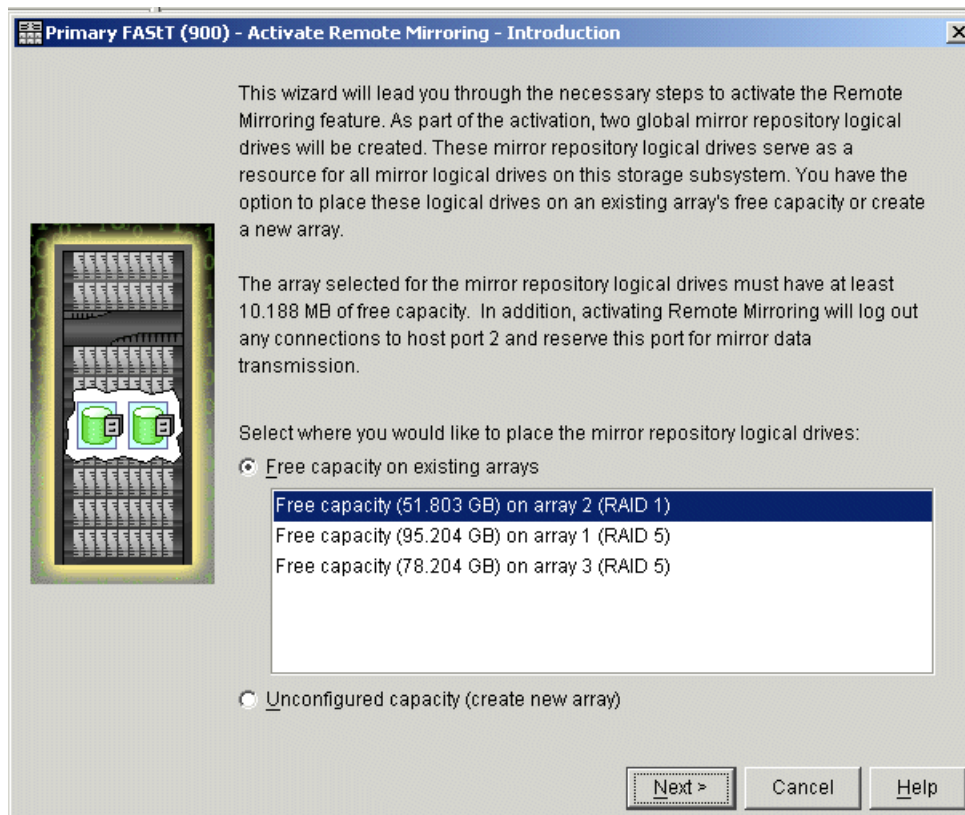

Figure 8-13 Activate Remote Mirroring Wizard - Introduction
2. The Activate Remote Mirroring Wizard - Introduction dialog is opened (Figure 8-13 on page 255).